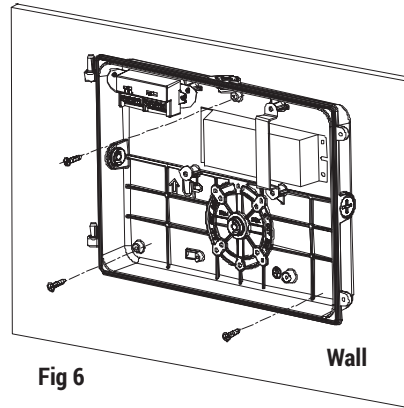

Fig 6
**METHOD 1:** Fix the rear housing on the wall by 3 screws (not provided) (Fig 6).